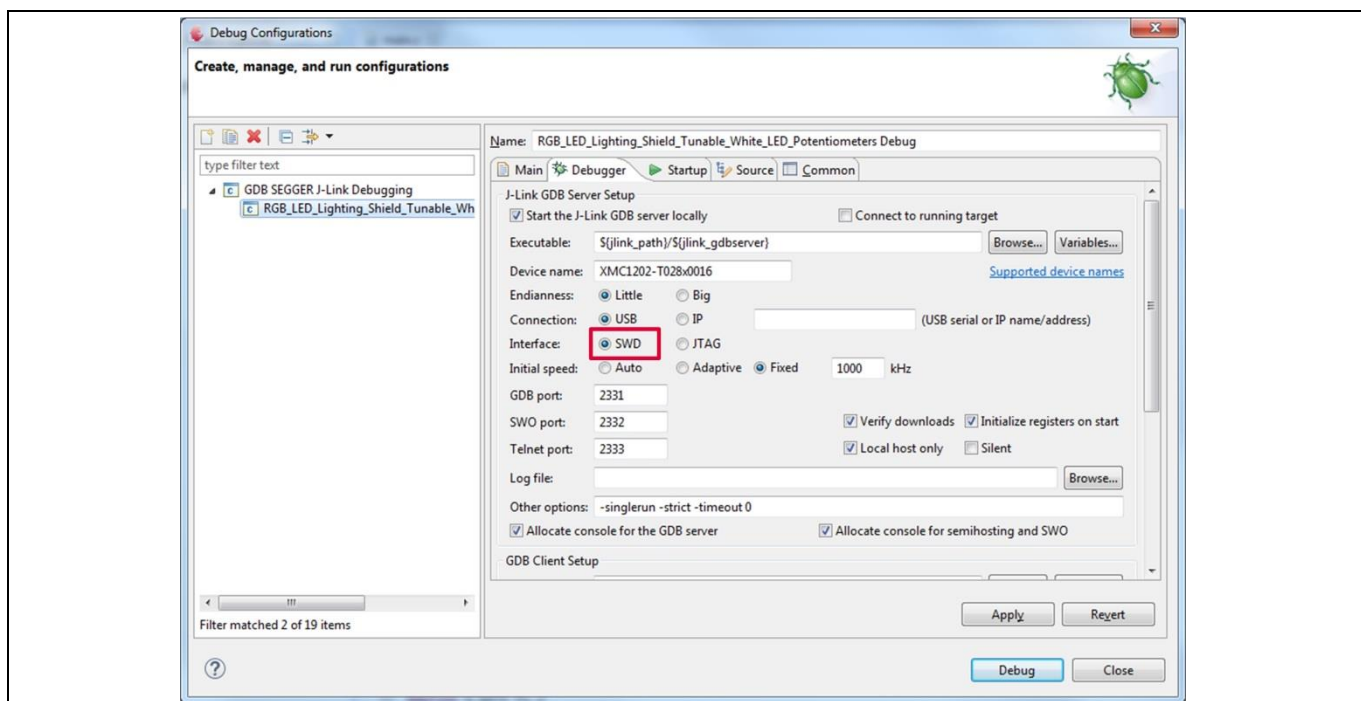

Figure 23 Debug profile configurations
- Open the “Debugger” tab (Figure 23). Ensure that “SWD” is selected as the debug interface. Click “Debug”.